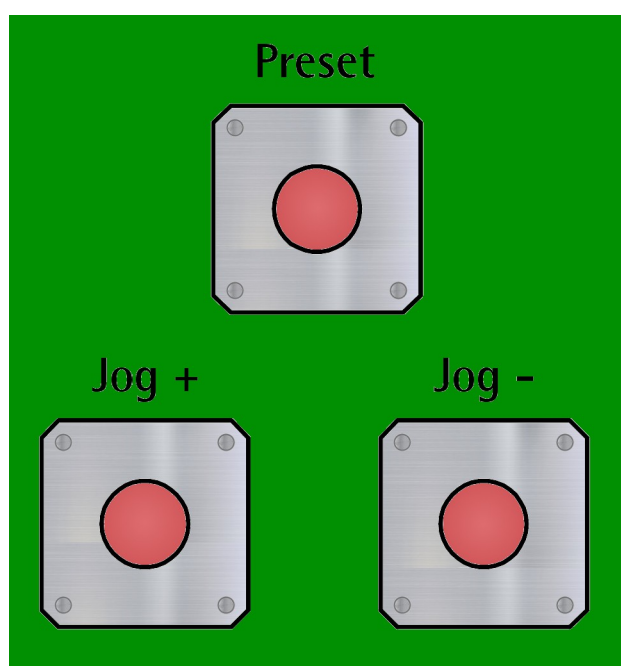

Figure 8: Preset / Jog buttons
4.5 Preset / Jog buttons (Figure 8)
4.5.1 JOG + and JOG - buttons (Figure 8)
4.5.2 PRESET button (Figure 8)